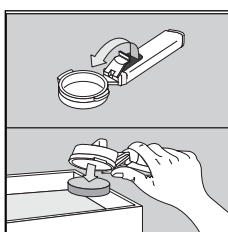

fig. 17
8. To remove the used coffee lock the filter with the built-in lever and let the coffee fall out by knocking the over turned filter holder (fig. 17).